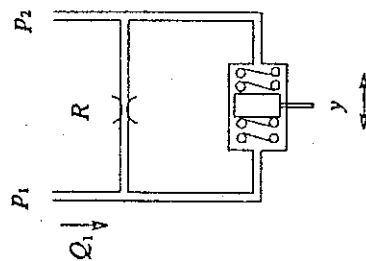

Figure 2.17 For Exercise 2.1
2.1. A hydraulic component, shown in Figure 2.17, consists of flow being divided between an orifice of resistance R and a spring-loaded piston.